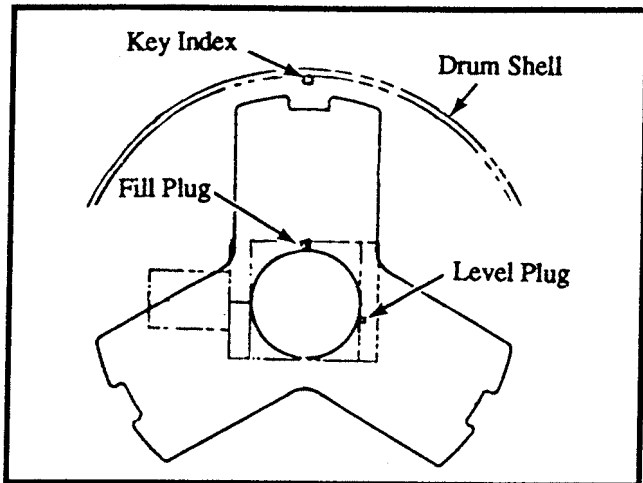

Figure 13-5. Torque Hub Plugs
5. After the oil has completely drained, position the torque hub so that one of the ports is in the 12 o'clock position. Refer to Figure 13-5.